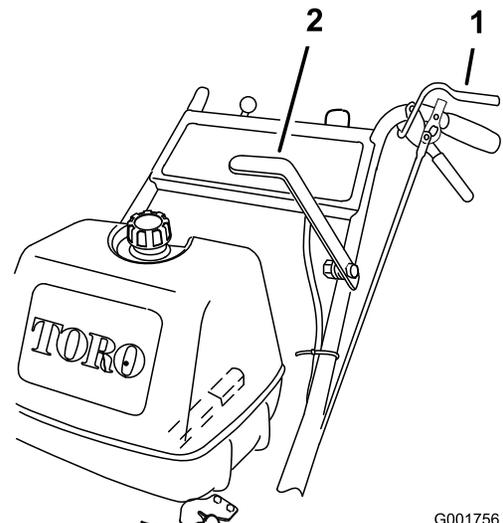

Figure 9
1. Squeeze the operator presence control (OPC) levers against the handles (Figure 9).
2. Push the blade-control (PTO) lever firmly forward until it latches over the center (Figure 9).
To disengage the blades, pull the blade-control lever rearward all the way (Figure 9). The engine will stop when the OPC levers are released with the blade-control lever engaged.